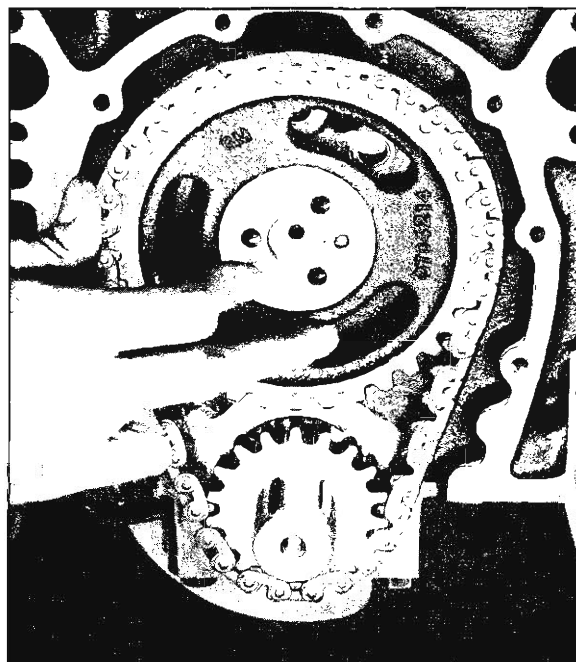

Fig. 16V—Installation of Timing Chain
7. Align dowel in camshaft with dowel hole in camshaft sprocket and install sprocket on camshaft (fig. 16V).